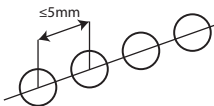

Figure 3
4. **Continuous measurement (scan):** Continuous measurement method involves taking continuous measurements along a specified line according to the single measurement method, at intervals of 5mm or less (Figure 3). Take the minimum indicated value as the thickness of the material.